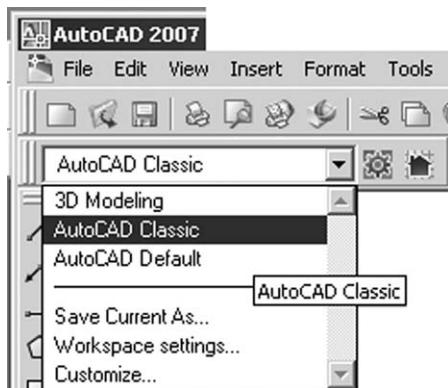

Figure 3.2 Selecting AutoCAD Classic from the Workspaces toolbar.
b) select AutoCAD Classic – Figure 3.2